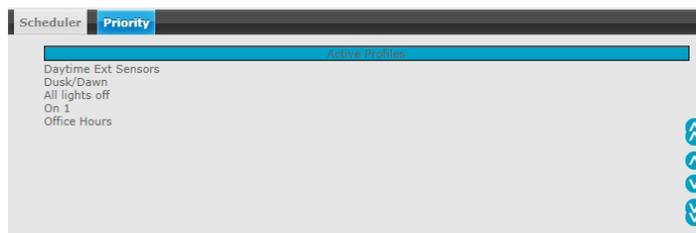

Figure 69: Set Profile Priorities
6. Users can change the priority status of profiles on the **Priority** tab (Figure 69), which allows devices in multiple profiles to react based on the priority of said profiles. Select the priority of the profile to change, then use the arrows to move to the appropriate position, or down into the disabled area